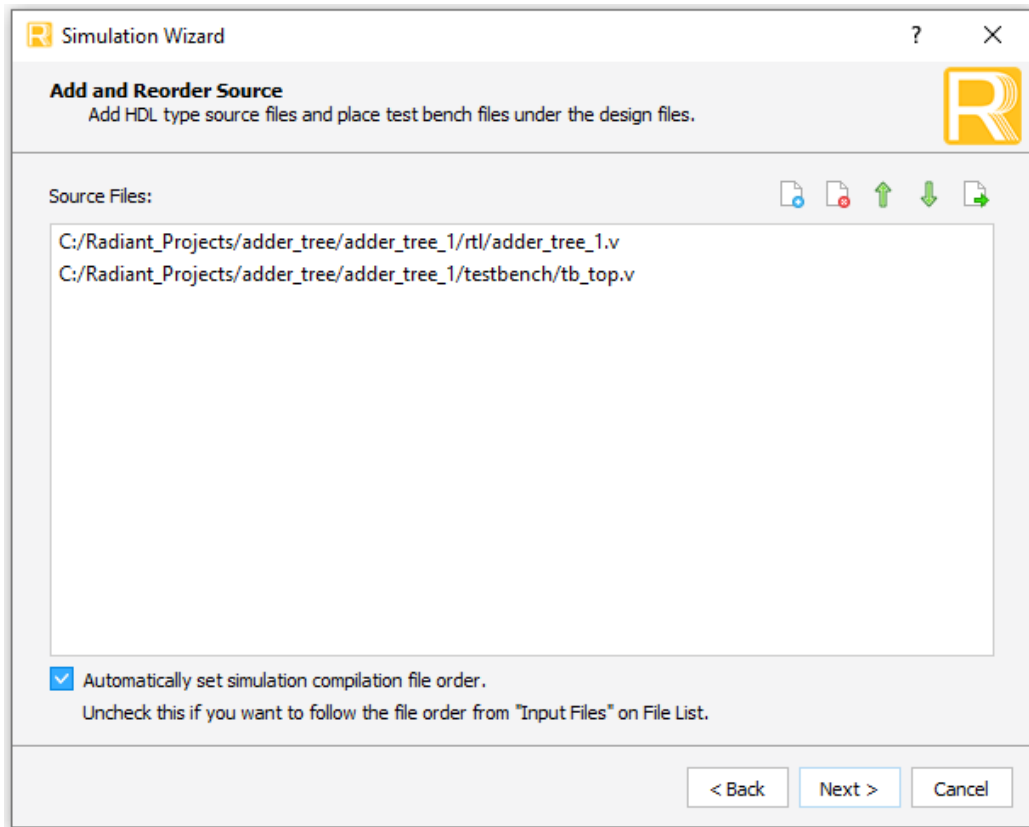

Figure 3.5. Adding and Reordering Source
2. Click **Next** to open the Add and Reorder Source window as shown in Figure 3.5.